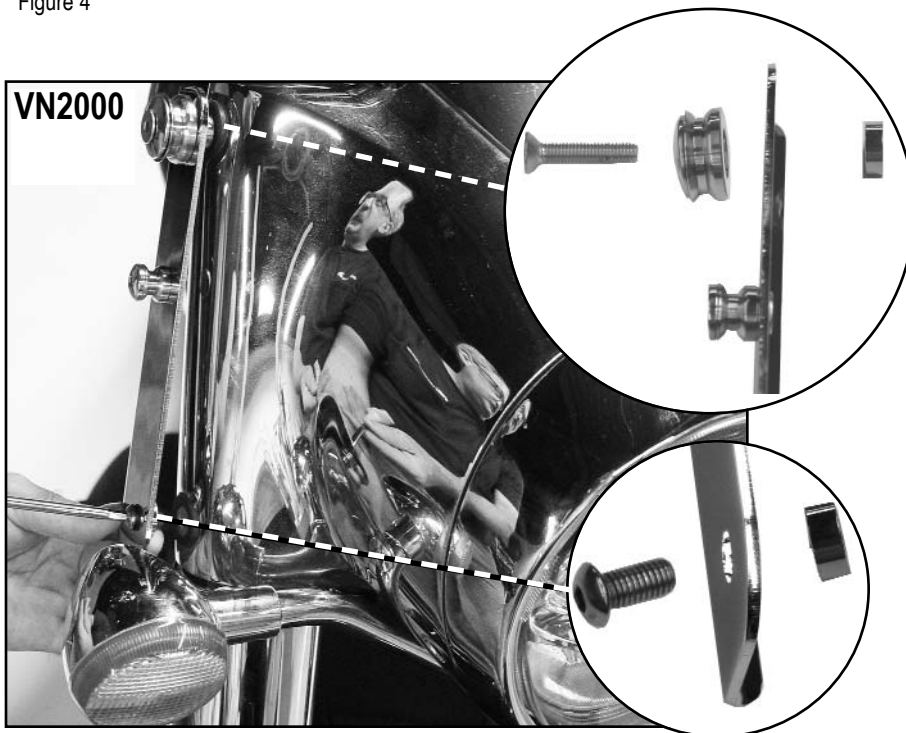

Figure 5
4. Assemble the Right Side Bracket (9) with bent edge of Bracket toward rear as shown in **figure 5 (5mm Hex Key).**